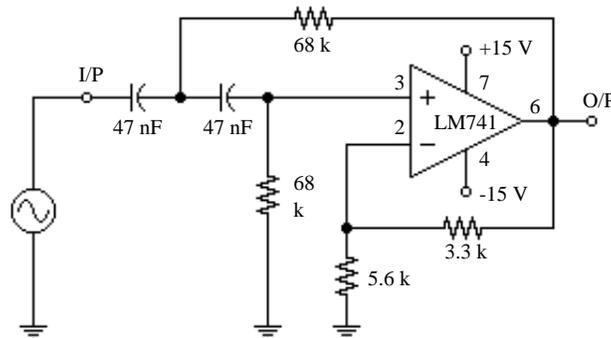

Figure 0-5. High Pass Circuit
- You may be required to build either the circuit of Figure 0-5 or the circuit which you designed in the Lab Preparation section. Ask your instructor which circuit you are to build.
- Apply appropriate voltages to the input of the circuit of Figure 0-5 so as to complete the measurements of Table 0-3. Be sure the op amp output is not overdriven.